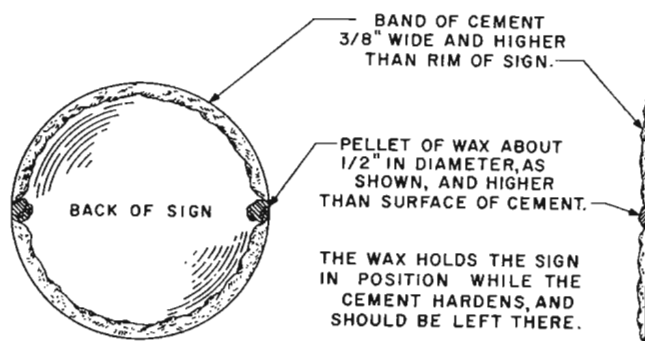

Fig. 4 — Method of applying Cement and Wax
2. Apply cement to sign as shown in Fig. 4.